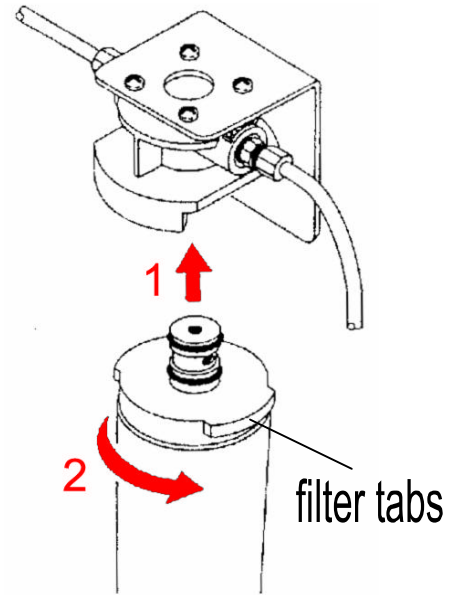

Fig 4.
4. Write the date of installation onto the label of the new filter cartridge (C).
5. Align the tabs on the filter (C) with the gaps in the base of the filter head (B). Fig.4.
6. Whilst holding the filter head (B) push the filter (C) upwards firmly into the head (B). Turn the filter cartridge (C) 90° to lock it in place. Fig.4.